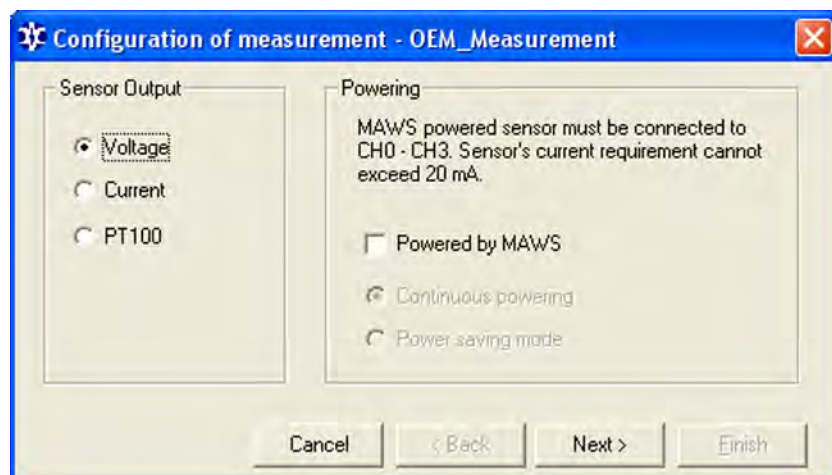

Figure 73 Selecting Input Type and Powering
3. Open the **Utility** menu and select the **Wizard** option. The window presented in Figure 73 on page 154 appears.